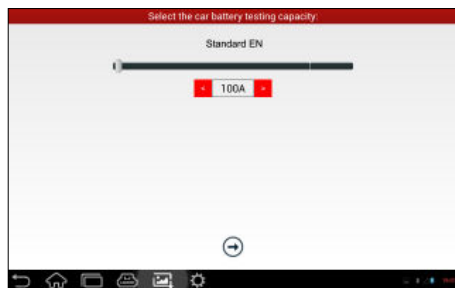

Fig. 7-6
6. Select a testing standard except for JIS and tap →, a screen similar to Fig. 7-6 will appear. Users can adjust capacity size by tapping on < or > or by dragging the slider on the bar.